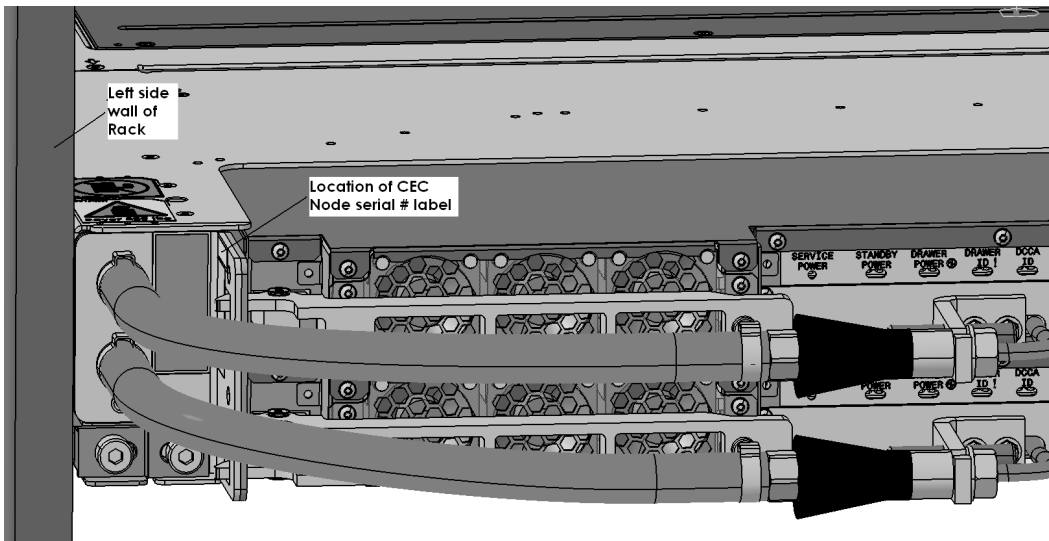

Figure 8 FRU Serial number location
STEP 9 Verify that the serial number on the CEC Enclosure VPD label (CEC Node serial # label) matches the location code of the UNVSA and SAS Jumper cable requiring service (see Figure 8). This is the 7 digit serial number in the location code, show in bold below for example: